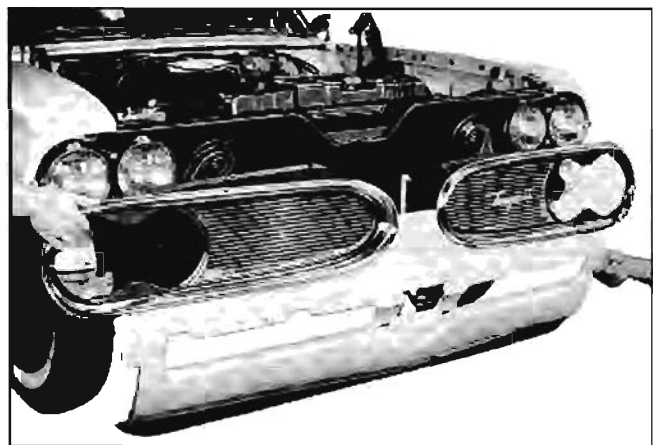

Fig. 6-41 Removing Radiator Grille and Lower Panel
1. Remove radiator grille lower panel, grille and hood latch as an assembly (Fig. 6-41).